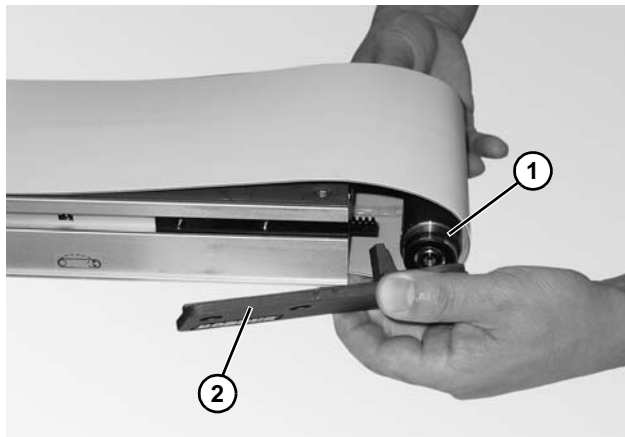

Figure 59
1. With opposite head plate installed, position the idler spindle (**Figure 59, item 1**) through the loop of the belt, into the opposite head plate.
2. Place the head plate (**Figure 59, item 2**) and attach the head plate to the conveyor frame with the two (2) screws removed and hand tighten.